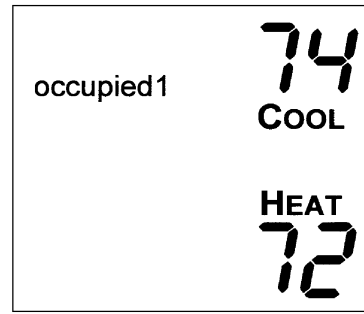

Fig. 8 — Setting Occupied 1 Set Points
maximum number of Occupied periods for each day. The thermostat can be set to 1, 2, or 3. After the number of Occupied periods has been selected, press the Mode button. See Fig. 8.
2. The cooling set point for Occupied 1 will be displayed. Use the UP ARROW and DOWN ARROW buttons to raise or lower the cooling set point until the desired temperature is shown. The range of acceptable values is 35 to 99 F (2 to 36 C). Press the Mode button to continue. See Fig. 8.
3. The heating set point for Occupied 1 will be displayed. Use the UP ARROW and DOWN ARROW buttons to raise or lower the heating set point until the desired temperature is shown. The range of acceptable values is 35 to 99 F (2 to 36 C). Press the Mode button to continue. See Fig. 8.